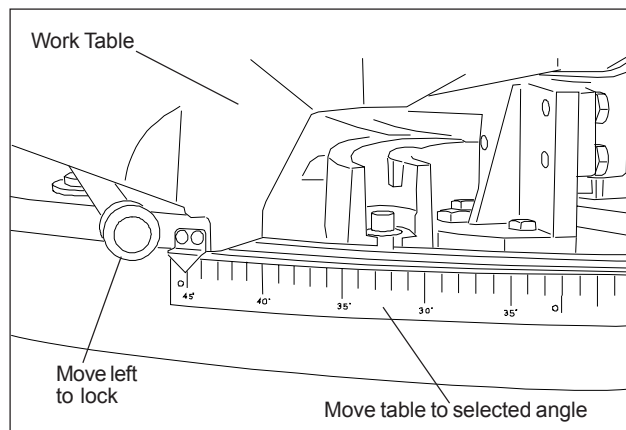

Figure 8: Locking Work Table
- Move swivel-head to left until pointer is set on desired angle (refer to Figure 8).